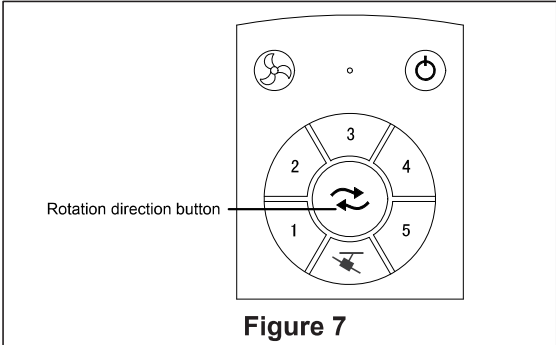

Figure 7
- If airflow is desired in the opposite direction, Press the F/R button again. (Figure 7)